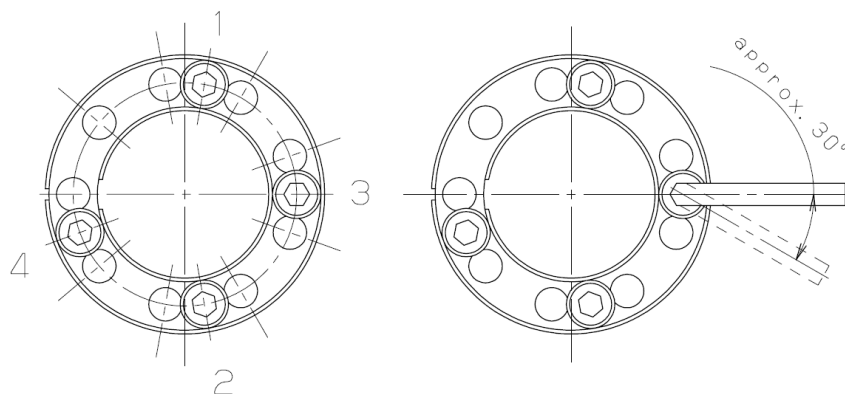

Fig 5 Tightening sequence for removal
2. Apply enough oil or grease to the threads of the locking bolts and the tapped holes for removal in taper ring A. Tighten the locking bolts into all of the tapped holes to remove evenly as in the sequence shown in figure 5.